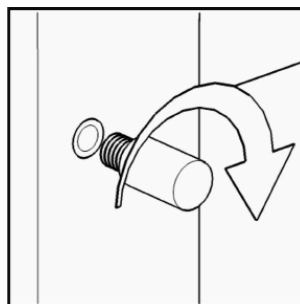

Figure 5
Insert Adjustable Pins into the side frames at the desired level and place Shelf (H) into position. (See Figure 5)